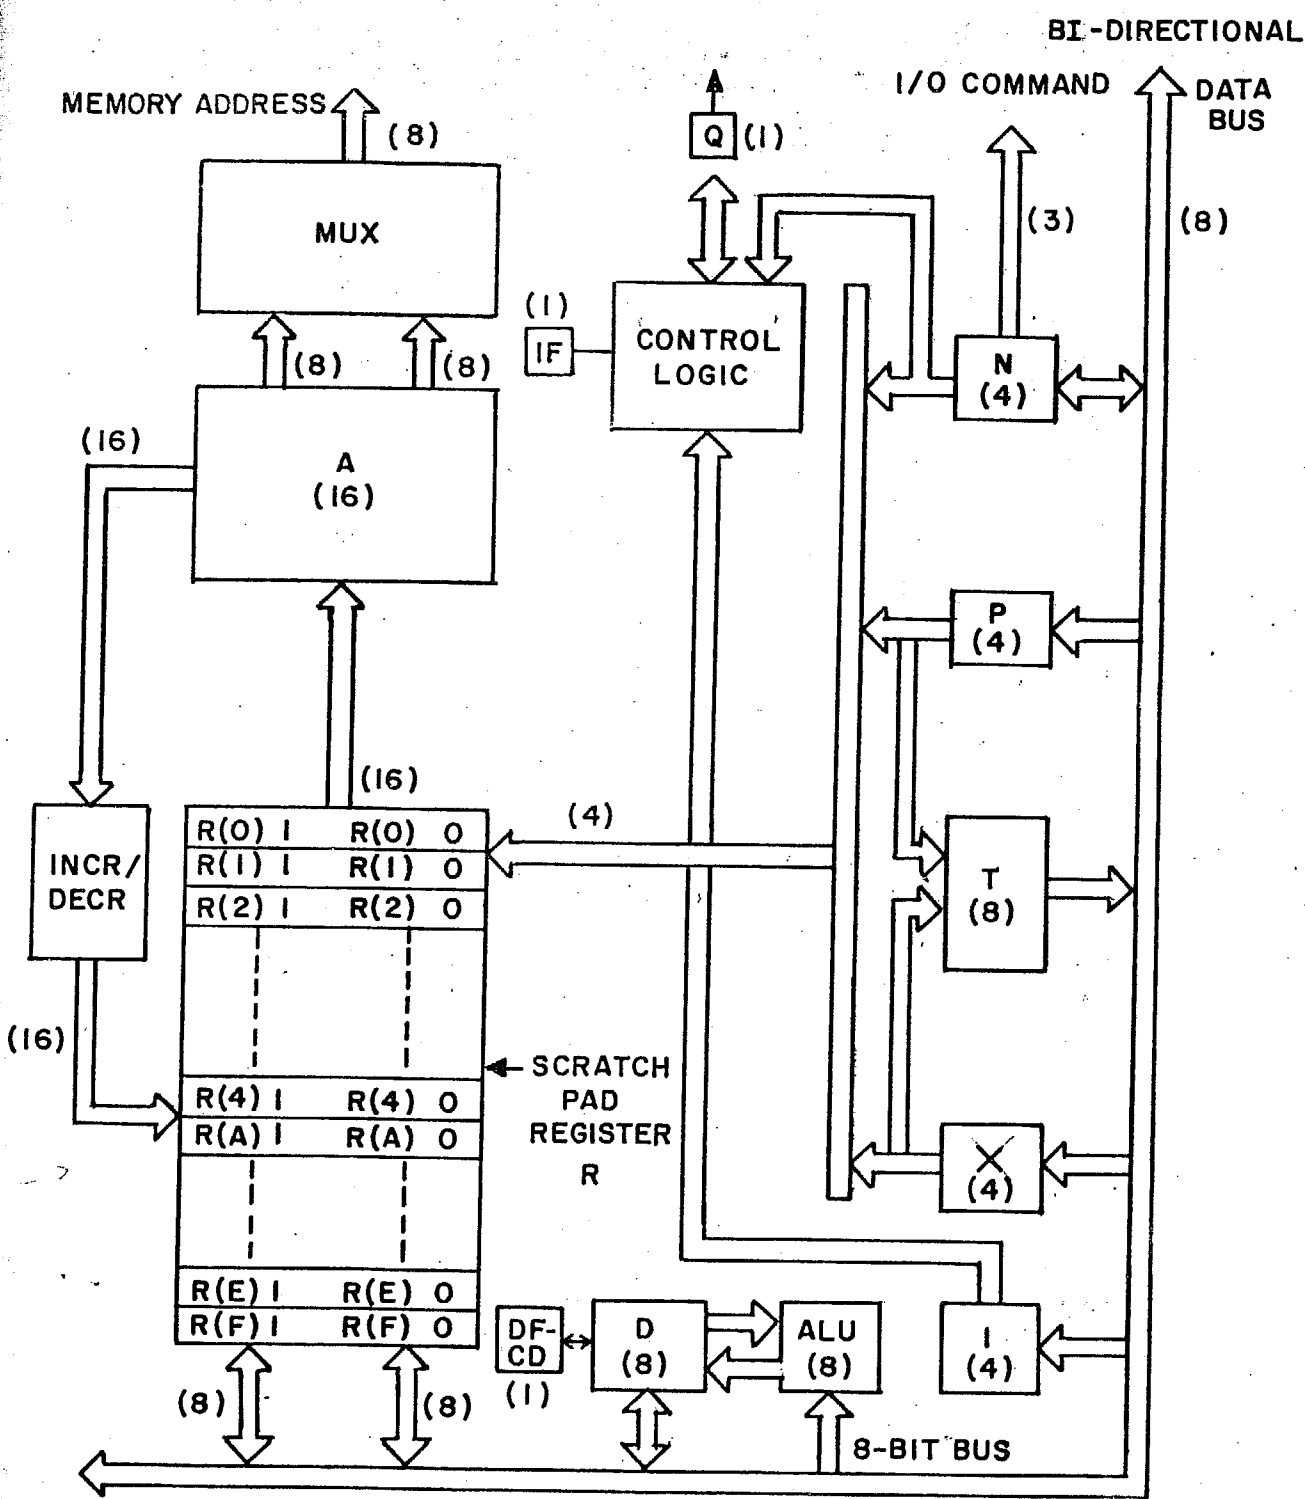

FIG.1 INTERNAL STRUCTURE OF THE CDP 1802 MICROPROCESSOR
- Fig.1 : Internal architecture of 1802.